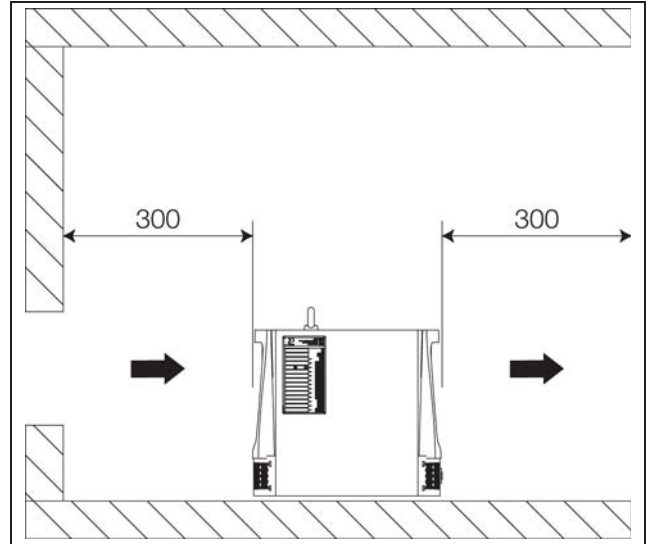
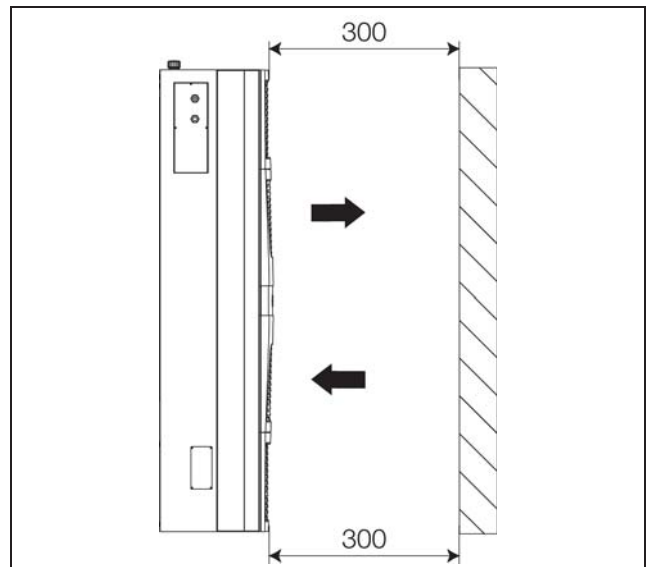

Fig. 38: Minimum distances
Fig. 39: Minimum distances
- In order to make maintenance and repair work easier, the minimum distances shown under fig. 38 or fig. 39 should be adhered to.
- In order to avoid an "air short-circuit" (mixing of air intake and waste air) and ensure full cooling output, the minimum distances shown under fig. 38 or fig. 39 should be adhered to.